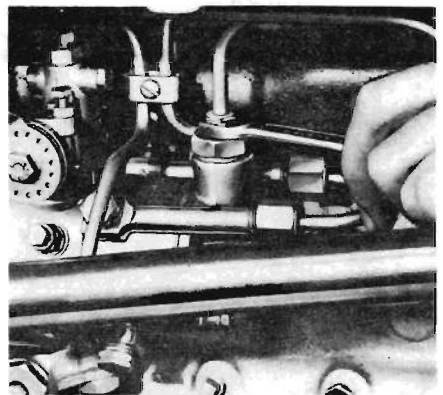

Fig. 9
4. Slacken the pipe union nut (see fig. 9) at the pump inlet, operate the priming lever and retighten when fuel, free from air bubbles, issues from around the threads.